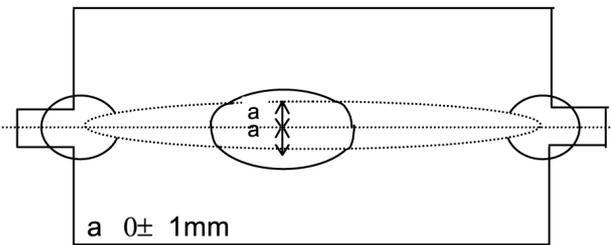

Fig . 2
8. Wedge A shown in Fig. 2 should be fixed within a range of 45° to the left of the vertical line as shown.
5. Set 2 magnet of vertical position to up and down equally so that center part of CRT (Fig. 2)